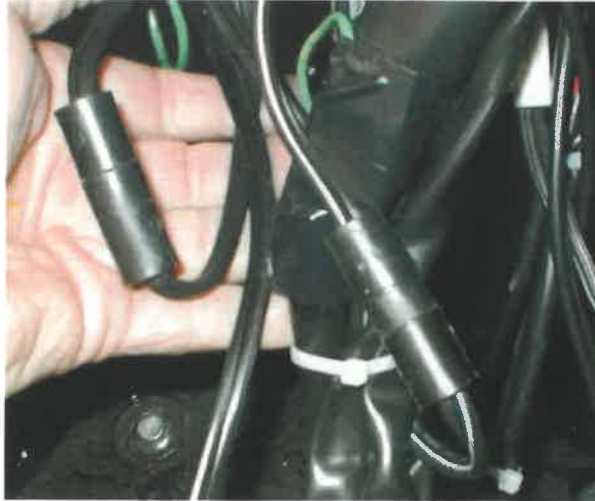

Figure 9
- g. The plug of the Filter/Stack Plug Lead (item #3) is connected to the socket of the Detachable Main Wiring Harness (item #4). Assembly is in Figure 9